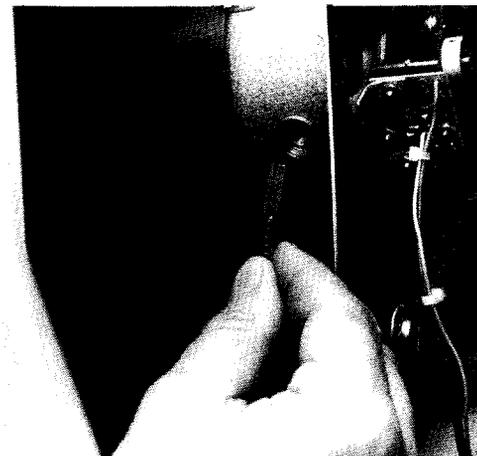

Figure 7. Spring and Brush Removed from Left Side of Motor
- Unscrew the brush cap and remove spring and brush assembly (Figure 7), *carefully noting* the orientation of the curved brush surface.